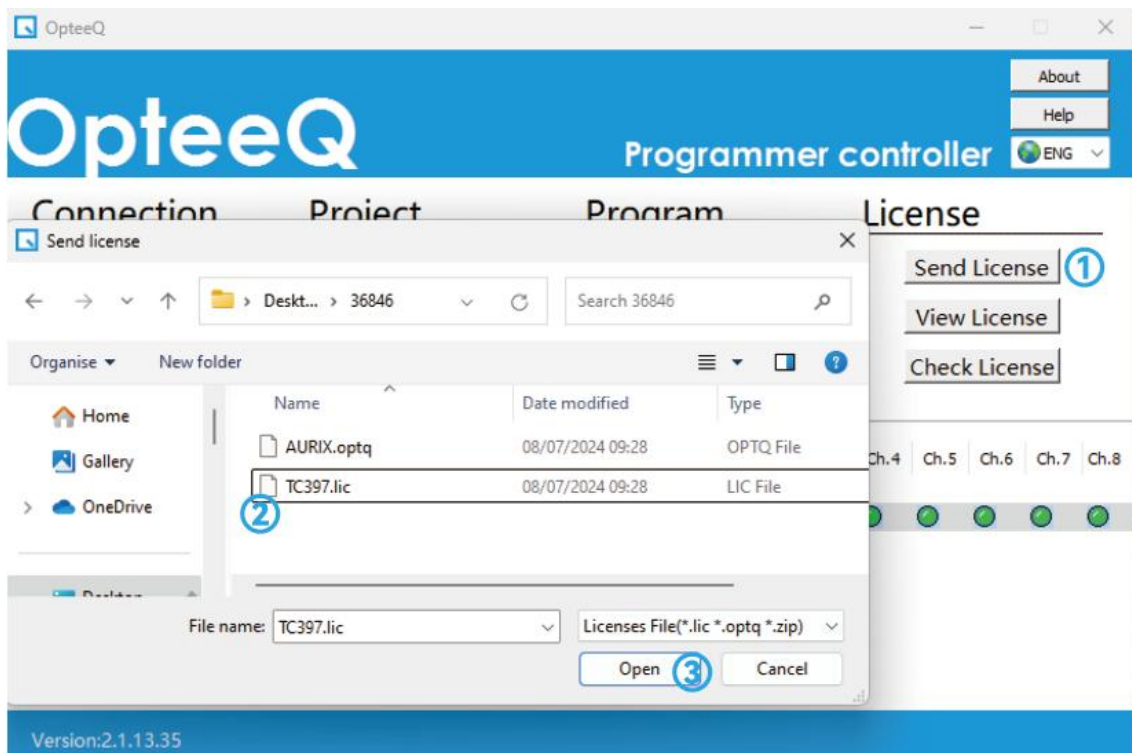

Figure 6.1 License
- 1) Click "Send License" (as shown in Figure 6.1-①).
- 3) Select the license in the dialog. (as shown in Figure 6.1-②).
- 4) Click "Open" and finish adding a license. (as shown in Figure 6.1-③).